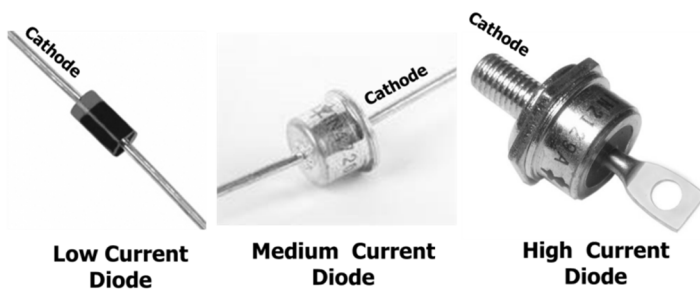

Fig 2.3
**Diodes Power classification: Refer fig 2.3.**